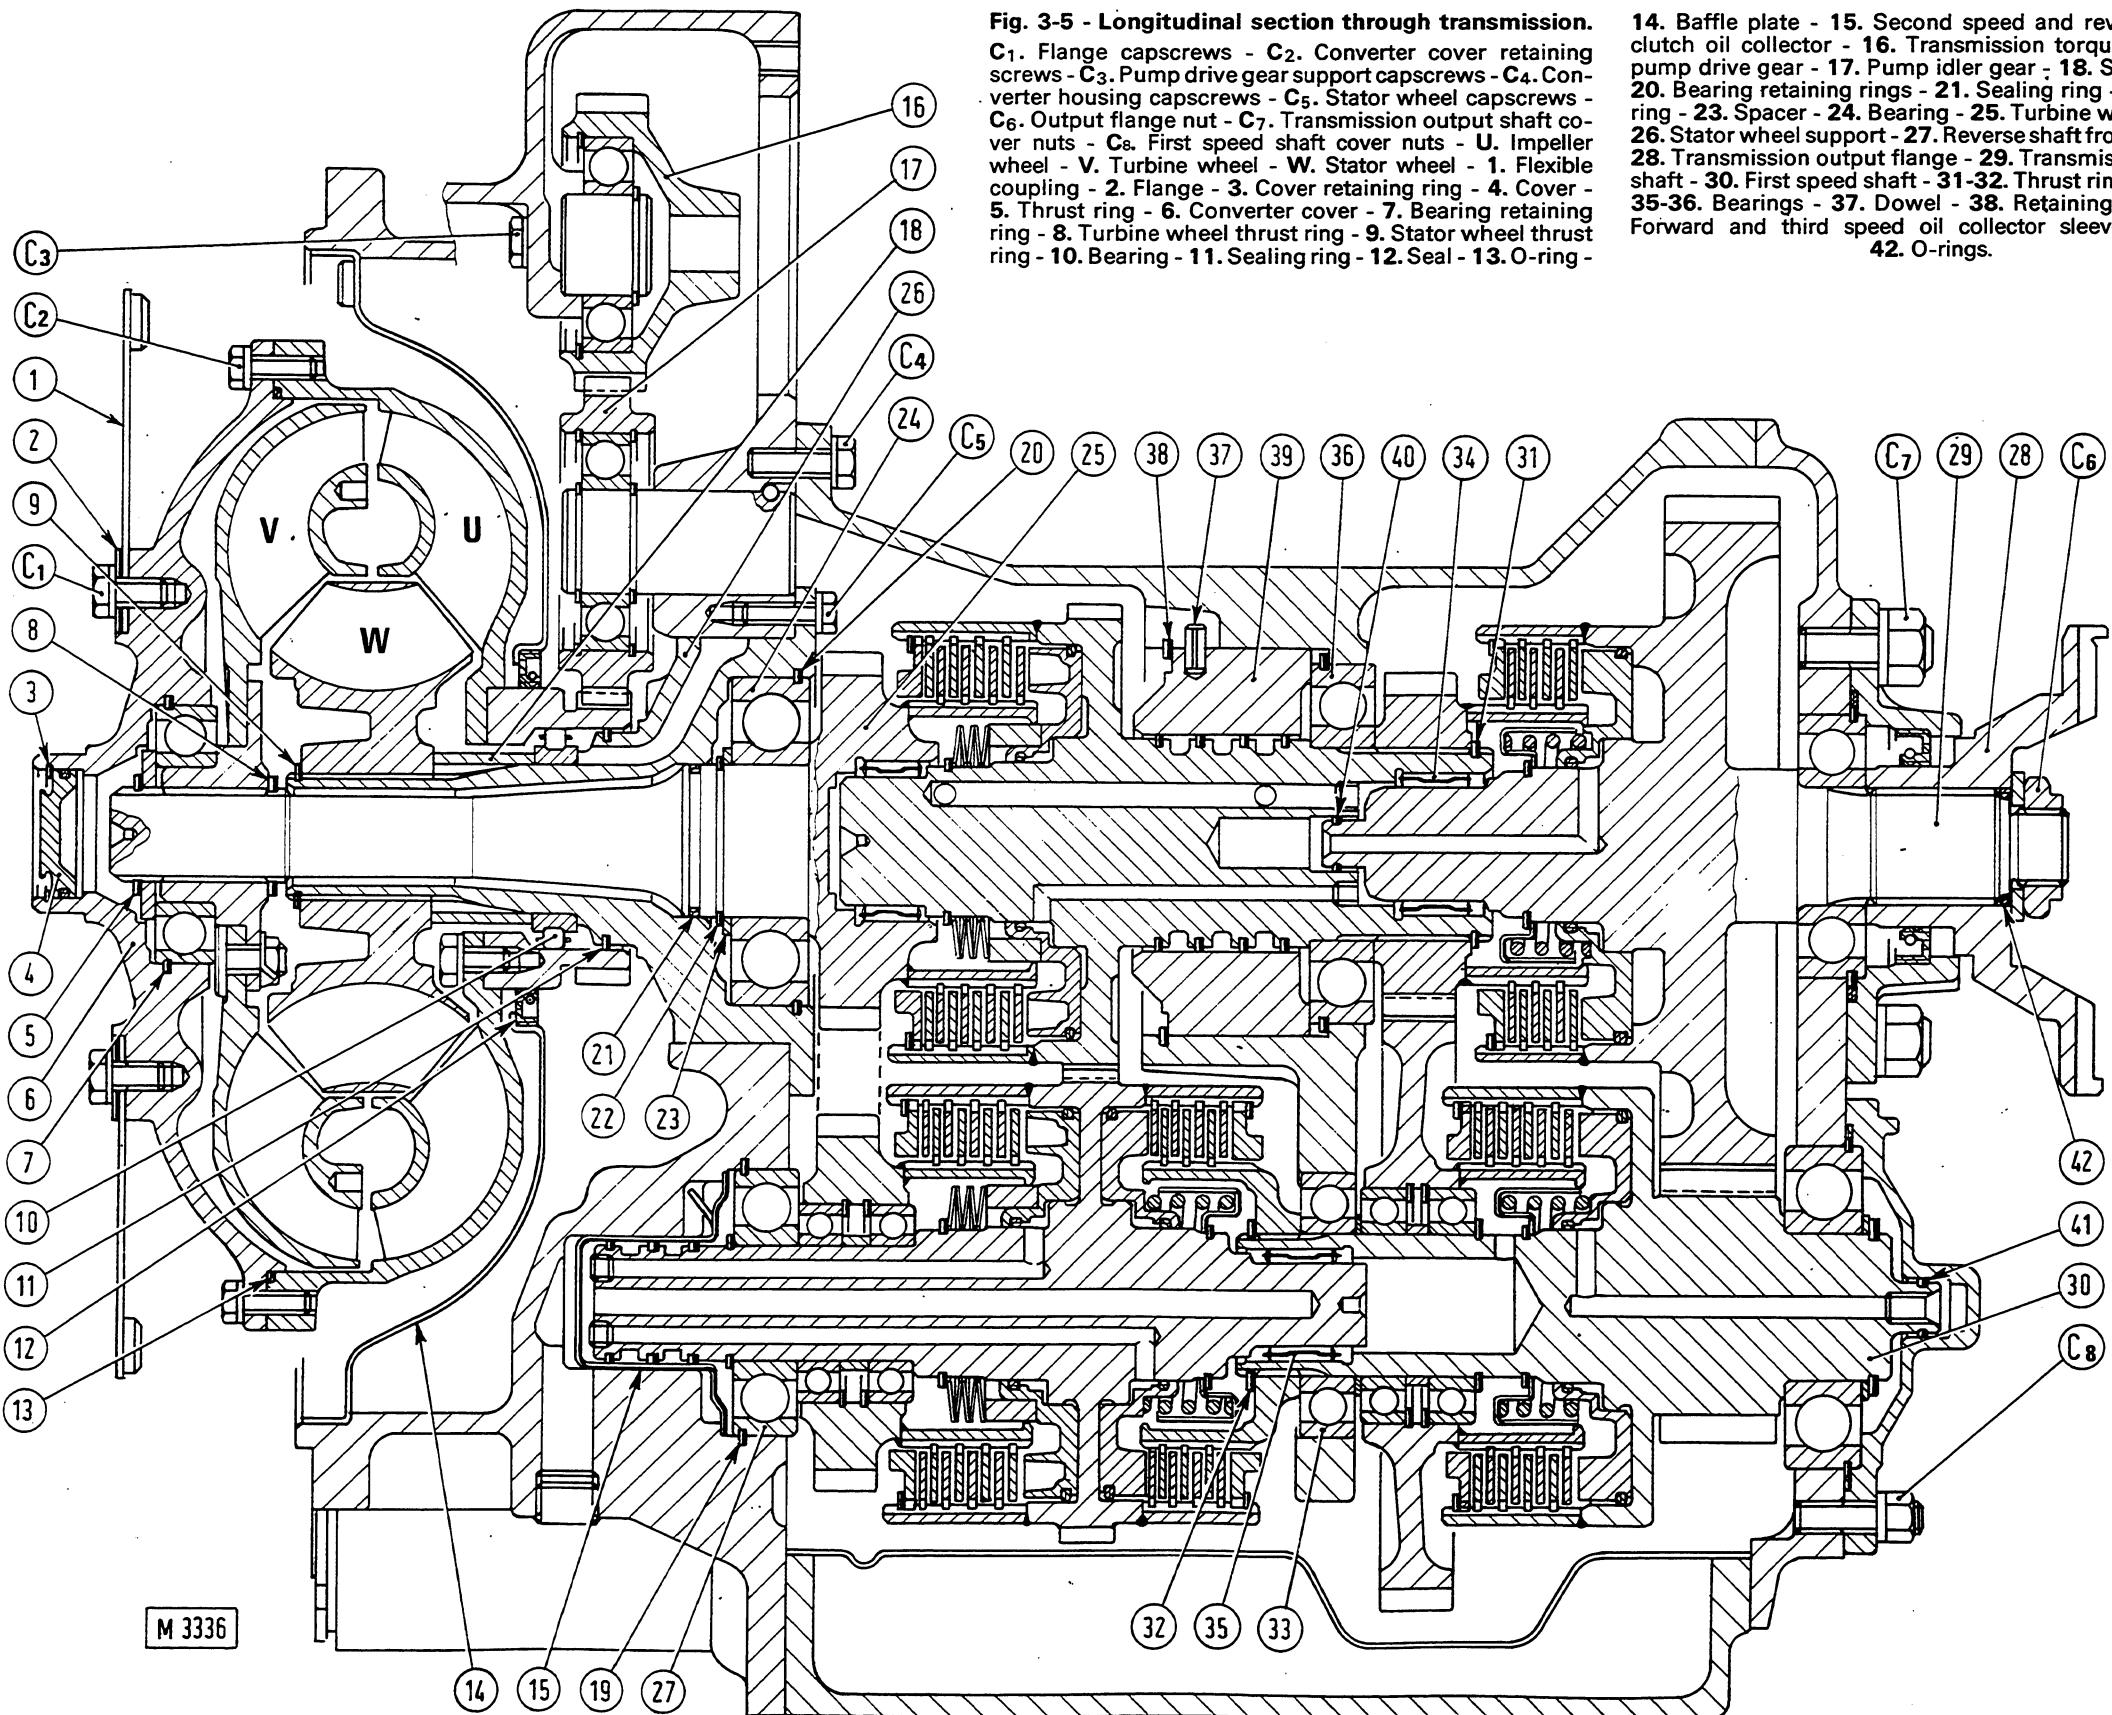

Fig. 3-5 - Longitudinal section through transmission.
- Remove starter on R.H. side of engine and loosen screws securing flywheel to flexible coupling (1, fig. 3-5) thru-
- Loosen screws ( $C_1$ , fig. 3-5) retaining flange (2) and flexible coupling (1).
- Remove retaining ring (3) and cover (4).
- Loosen all but two of converter housing screws ( $C_4$ , fig. 3-5).
- Support converter housing using lifting chain 75291517 (A, fig. 3-10) and loosen the last two screws (C4, fig. 3-5) securing converter housing to
- Using the pliers shown in detail a) fig. 3-10, open out reverse speed clutch front bearing retaining ring (19, fig. 3-5). Hold the ring open and lift converter housing off transmission case and lower to ground.